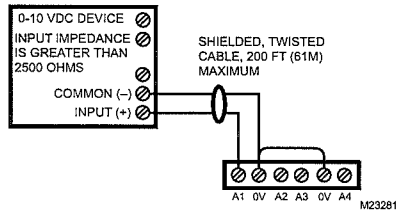

Fig. 10. Analog output wiring diagram.
Analog Outputs (AO) are referenced by the terminals labeled A_n and 0 V (ground). Each AO can supply a maximum of 4 mA over the entire 0 to 10 Vdc range. The minimum input impedance of a device controlled by an AO must be greater than 2500 ohms. Typical wiring for an AO is shown in Fig. 10.
In the Niagara station interface to the WEB-201 controller, each I/O module appears as one **NdioBoard** under the station's **NdioNetwork**. If a WEB-201 controller has only one WEB-IO-34 module, the NdioNetwork has a single **NdioBoard** component, where the "Io Port" property of the **NdioBoard** is 1. See Fig. 10, top.